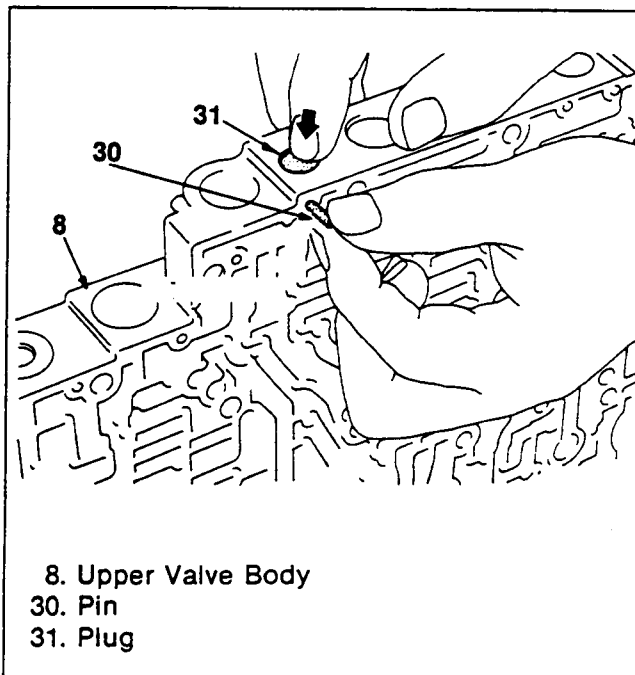

Figure 106. Pin Removal (2)
3. Pull pin out while pushing plug and sleeve with fingers (figure 106).